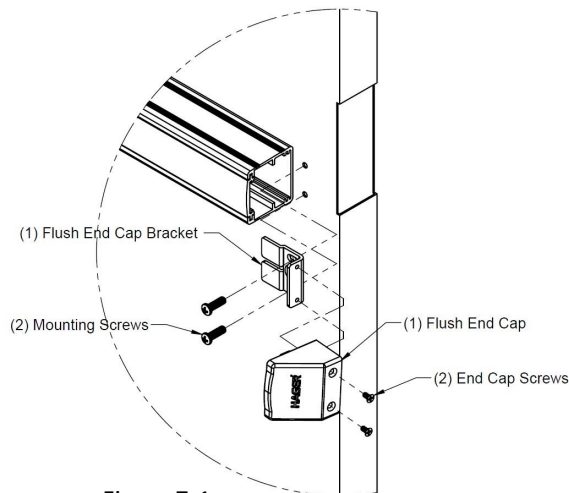

Figure 7-1
- D. Install flush end cap bracket and flush end cap using supplied screws (See Figure 7-1). If the flush end cap is not flush with the exit device, remove flush end cap and adjust the mounting screws and the flush end cap bracket as needed (See Figure 7-2)..